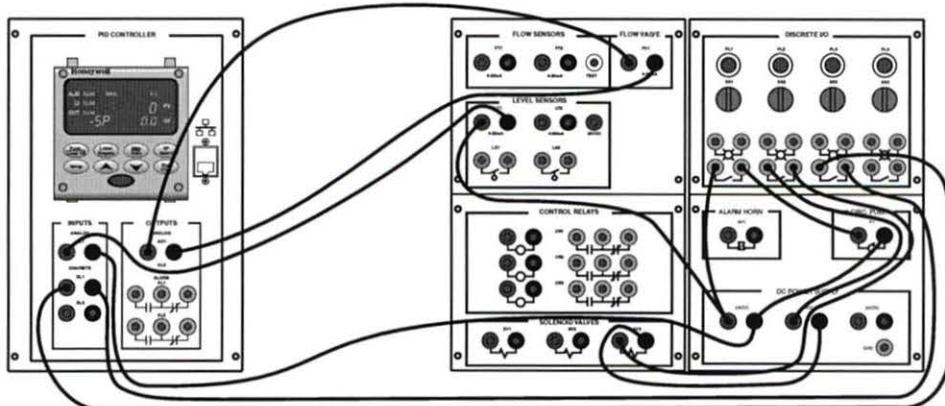

Figure 68. Level Control Circuit with Discrete Inputs
F. Connect the circuit shown in figure 68.